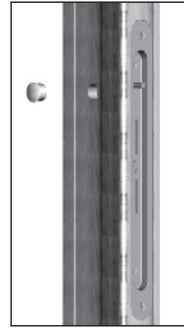

FIG. 22
- Plug access hole with the provided hole cap as shown in Fig. 22.